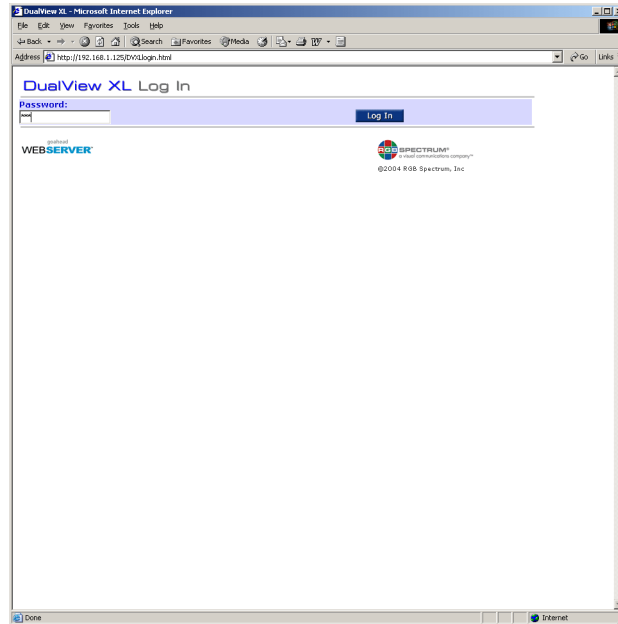

Figure 4-1. WCP Login screen page
- If you successfully connect to the *DualView XL*, the Log in screen for the WCP will be displayed in your browser window (Figure 4-1). If not then refer to the **System Troubleshooting** section in Chapter A..